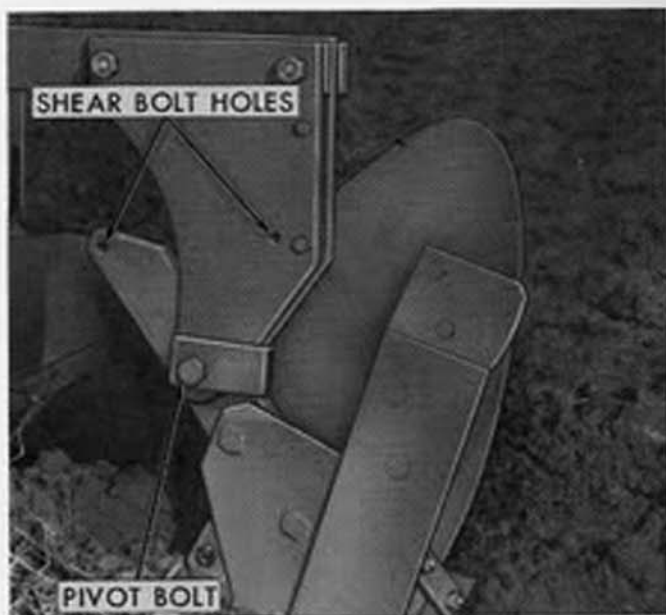

Figure 14
Initially, set the coverboards flush with the moldboards, Figure 14. Additional soil can be thrown by setting the coulters farther from the moldboard shins. To throw less soil, tilt the coverboard wings up.
**NOTE:** Be sure to use the support wedge, Figure 14.
Shear bolt beams have a special heat treated bolt (Part No. 372451-S8) which allows the bottom to trip, as shown in Figure 14.
Use the two existing plow bolts, washers, and hex nuts (3), Figure 14, to make the installation. The bolt spacers are not used.